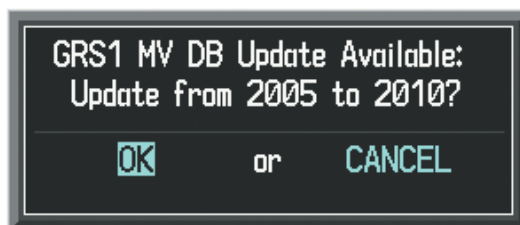
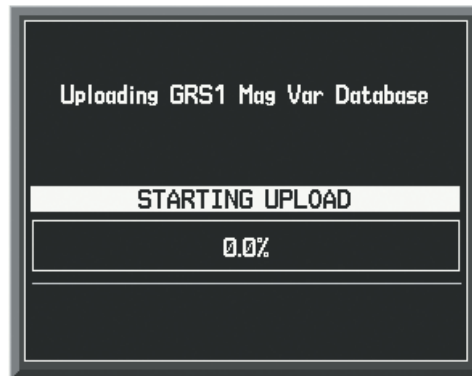

Figure B-12 GRS1 Magnetic Field Variation Database Update Prompt
Figure B-13 Uploading Database to GRS1
A copy of the current magnetic field variation database (MV DB) is included with the navigation database. At startup, the system compares this version of the MV DB with that presently being used by each AHRS (GRS1 and GRS2). If the system determines the MV DB needs to be updated, a prompt is displayed on the Navigation Map Page, as shown in Figure B-12. Note, in the following example, GRS1 is the first AHRS to indicate an update is available. In actuality, this is dependent on which AHRS is the first to report status to the system. GRS2 may be displayed before GRS1. The order is not important, only that both AHRS be updated.
- 1) With 'OK' highlighted, as seen in Figure B-12, press the **ENT** Key on the MFD. A progress monitor is displayed as shown in Figure B-13.